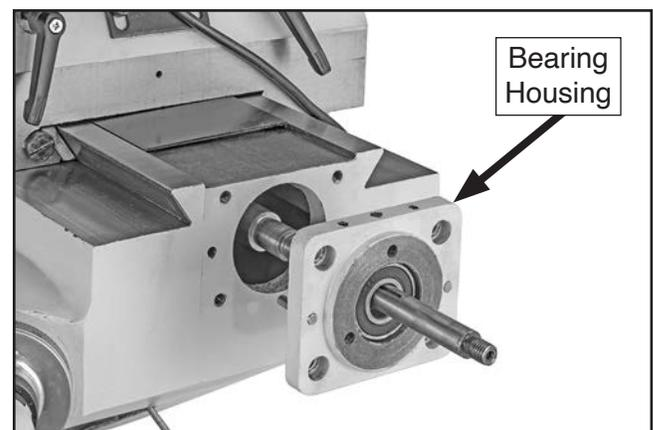

Figure 56. Y-axis bearing housing.
4. Remove (4) cap screws from bearing housing, then remove housing (see **Figure 56**).